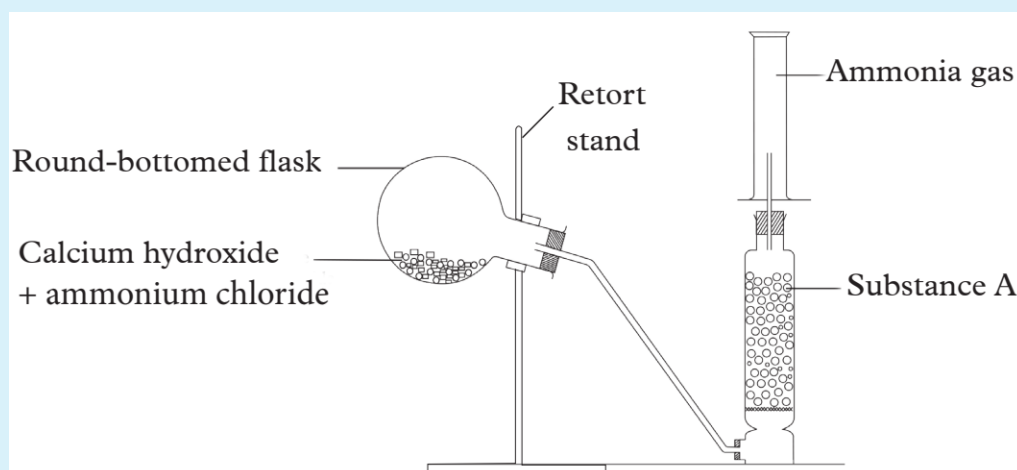

Fig 2.2.2(a): Laboratory set up for the preparation of ammonia
3. Arrange the apparatus as shown in figure 2.2.2(a).